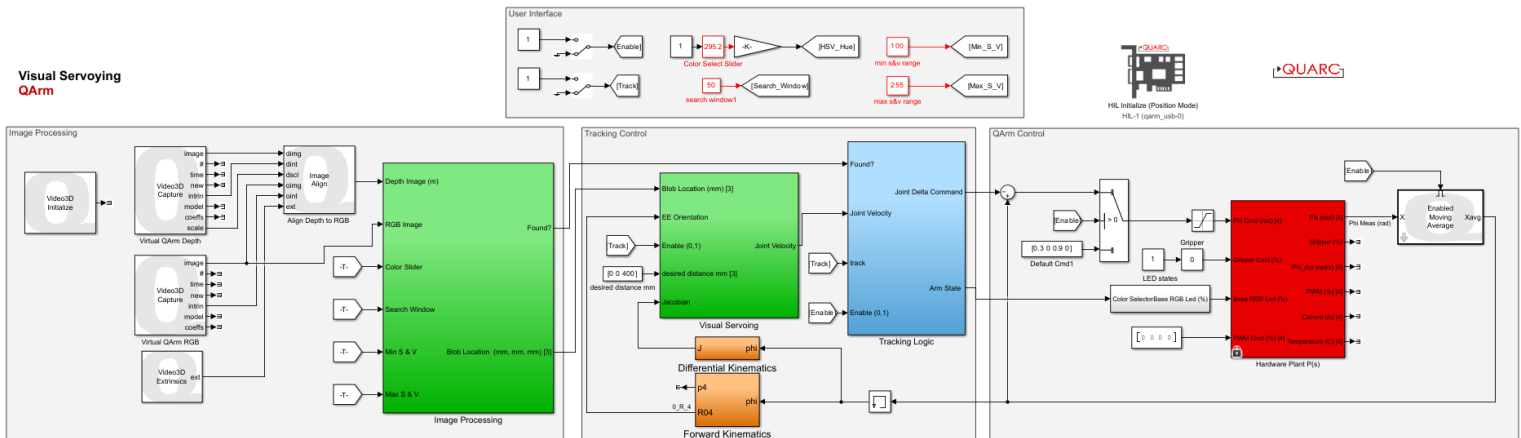

Figure 1: Simulink model that controls the QArm in Position Mode
1. Open the Simulink model LowLevelControlWristPosition.slx (Figure 1). In this part of the lab you will monitor the position performance of the wrist in the QArm.